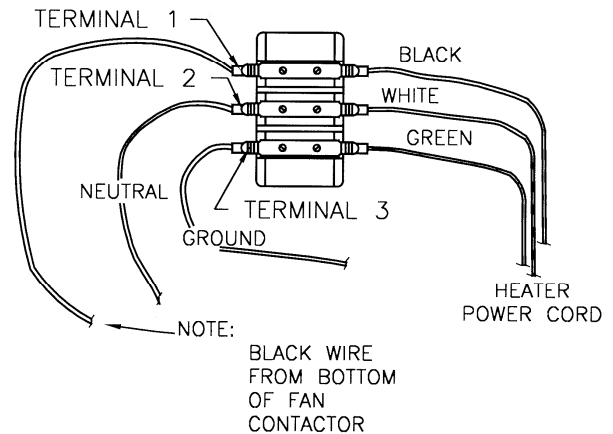

Figure 8. Heater Electrical Supply Connection
- B. The heater operates on 115 volt, single phase, 60 cycle power. For fans wired for 230 volt, make sure that the fan is wired with a neutral wire to the middle terminal of the fan terminal block, (#2), as well as a ground wire linked to the bottom terminal of the fan terminal block, (#3), as shown. The heater power cord is wired into the fan controls by connecting the black wire to the terminal (#1), the white wire to terminal (#2), and the green wire to terminal (#3) of the fan terminal block, as shown in **Figure 8**. With the heater wired into the fan circuitry, the fan must be operating before power is available to the heater. On H18-NGE-PE units, the fan terminal block is included with the heater. Follow the installation instructions provided in installing the fan terminal block into the fan controls.